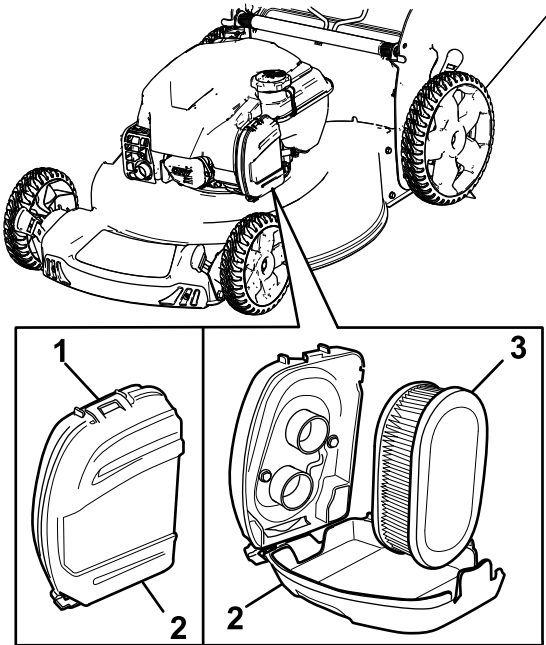

Figure 23
1. Unclip the top of the air-filter cover (Figure 23).
2. Remove the air filter (Figure 23).